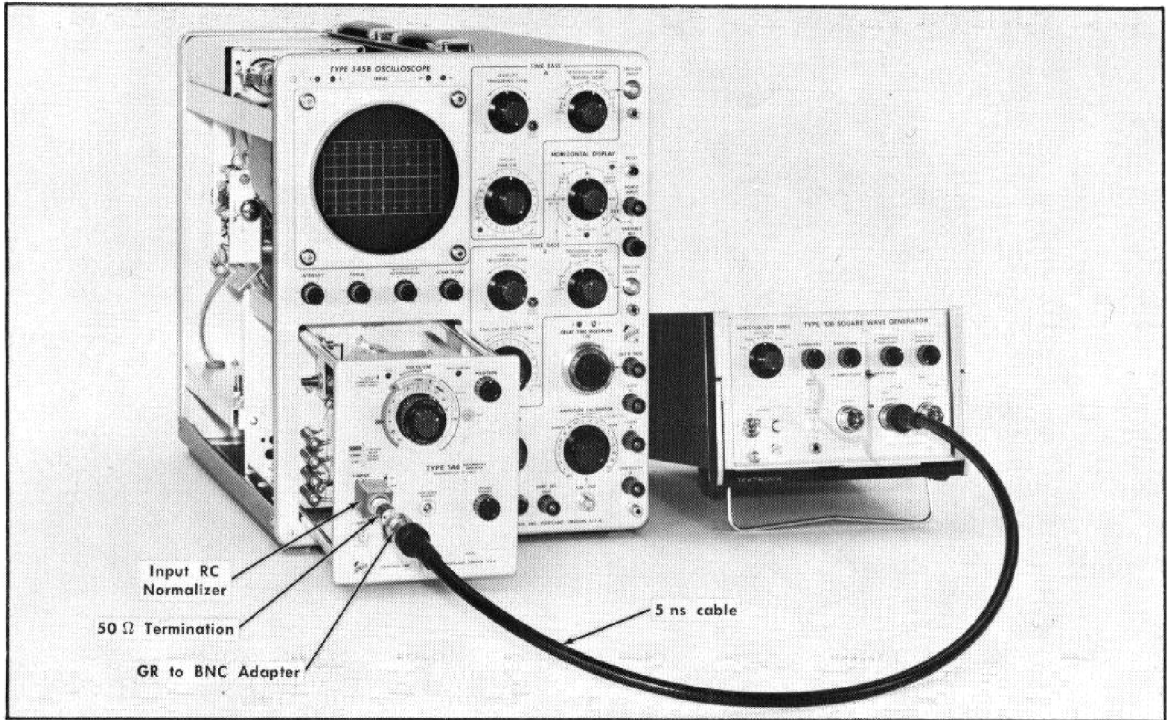

Fig. 6-10. Equipment setup for steps 9 and 10.
**9. Adjust Input Compensation and Cross Neutralization** ①
- a. Equipment setup is given in Fig. 6-10.